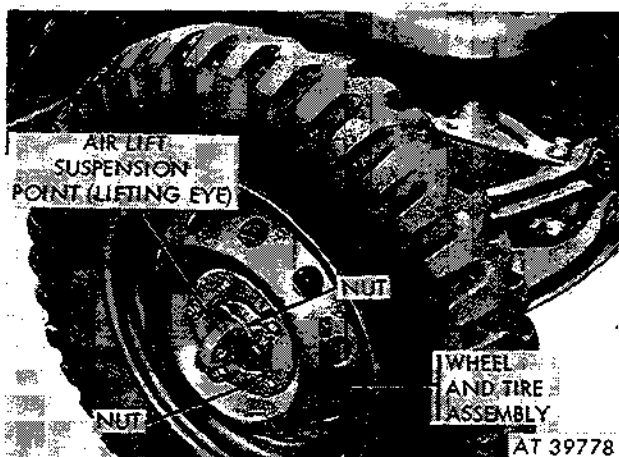

Figure 2-309. Remove nut and lifting eye, nuts, wheel and tire assembly.
(1) Remove nut and lifting eye (fig. 2-309).
(2) Jack up front of vehicle. Remove five nuts and remove wheel and tire assembly (fig. 2-309).
- (1) Remove wheel and tire assembly (fig. 2-309).
- (2) Remove lifting eye and locknut (fig. 2-309).
- (3) Remove cotter pin from wheel drive flange nut. Tighten drive flange nut to 30 lb-ft. torque.
- (4) Rotate spindle three complete rotations.
- (5) Recheck torque. If not at 30 lb-ft, tighten and repeat (4).
- (6) Repeat (4) and (5) until torque can be maintained after rotating, then rotate spindle three complete rotations.
- (7) Back nut off one complete rotation to relax the preload without rotating spindle. Tighten nut finger tight.
- (8) Insert cotter pin and secure. The spindle has two through holes for the cotter pin. If the slots in the nut do not align with either one of the holes, loosen the nut the least amount required to align a slot with a hole and insert cotter pin.
- (9) Install lighting eye and locknut.
- (10) Install wheel and tire assembly.